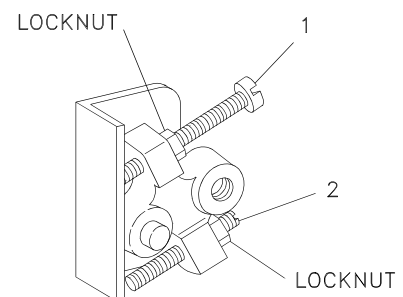

Figure 6-1. Engine Speed Adjustment Mechanism
6.3.3 ADJUSTING DIESEL ENGINE SPEED. The diesel engine speed is set correctly when the compressor runs at 1800 +0 / -25 revolutions per minute (rpm). The following procedure explains how to adjust the engine speed using the adjustment mechanism shown in Figure 6-1.